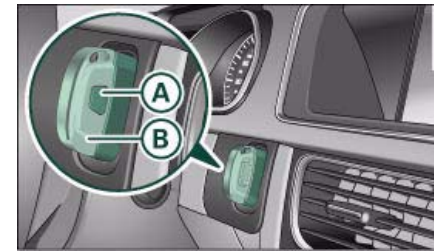

Fig. 32 Ignition lock with key
- Press the release catch (A) ⇒ *page 41*, fig. 32 using a ball-point pen or a similar object and pull the emergency key (B) out of the remote control key.